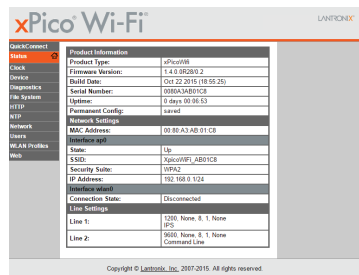

Figure 19: xPico WiFi Main Page
7. The XPico WiFi main page will open. Click on Quick Connect at the top of the menu and select the WiFi network to be used (e.g. H88d3). See Figure 19.